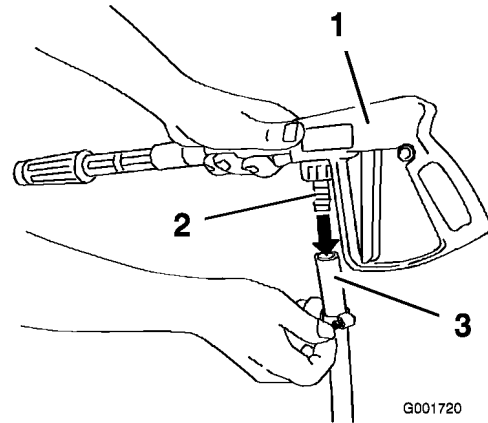

Figure 33
2. Connect the free end of the long hose to the fitting on the spray gun (Figure 33).